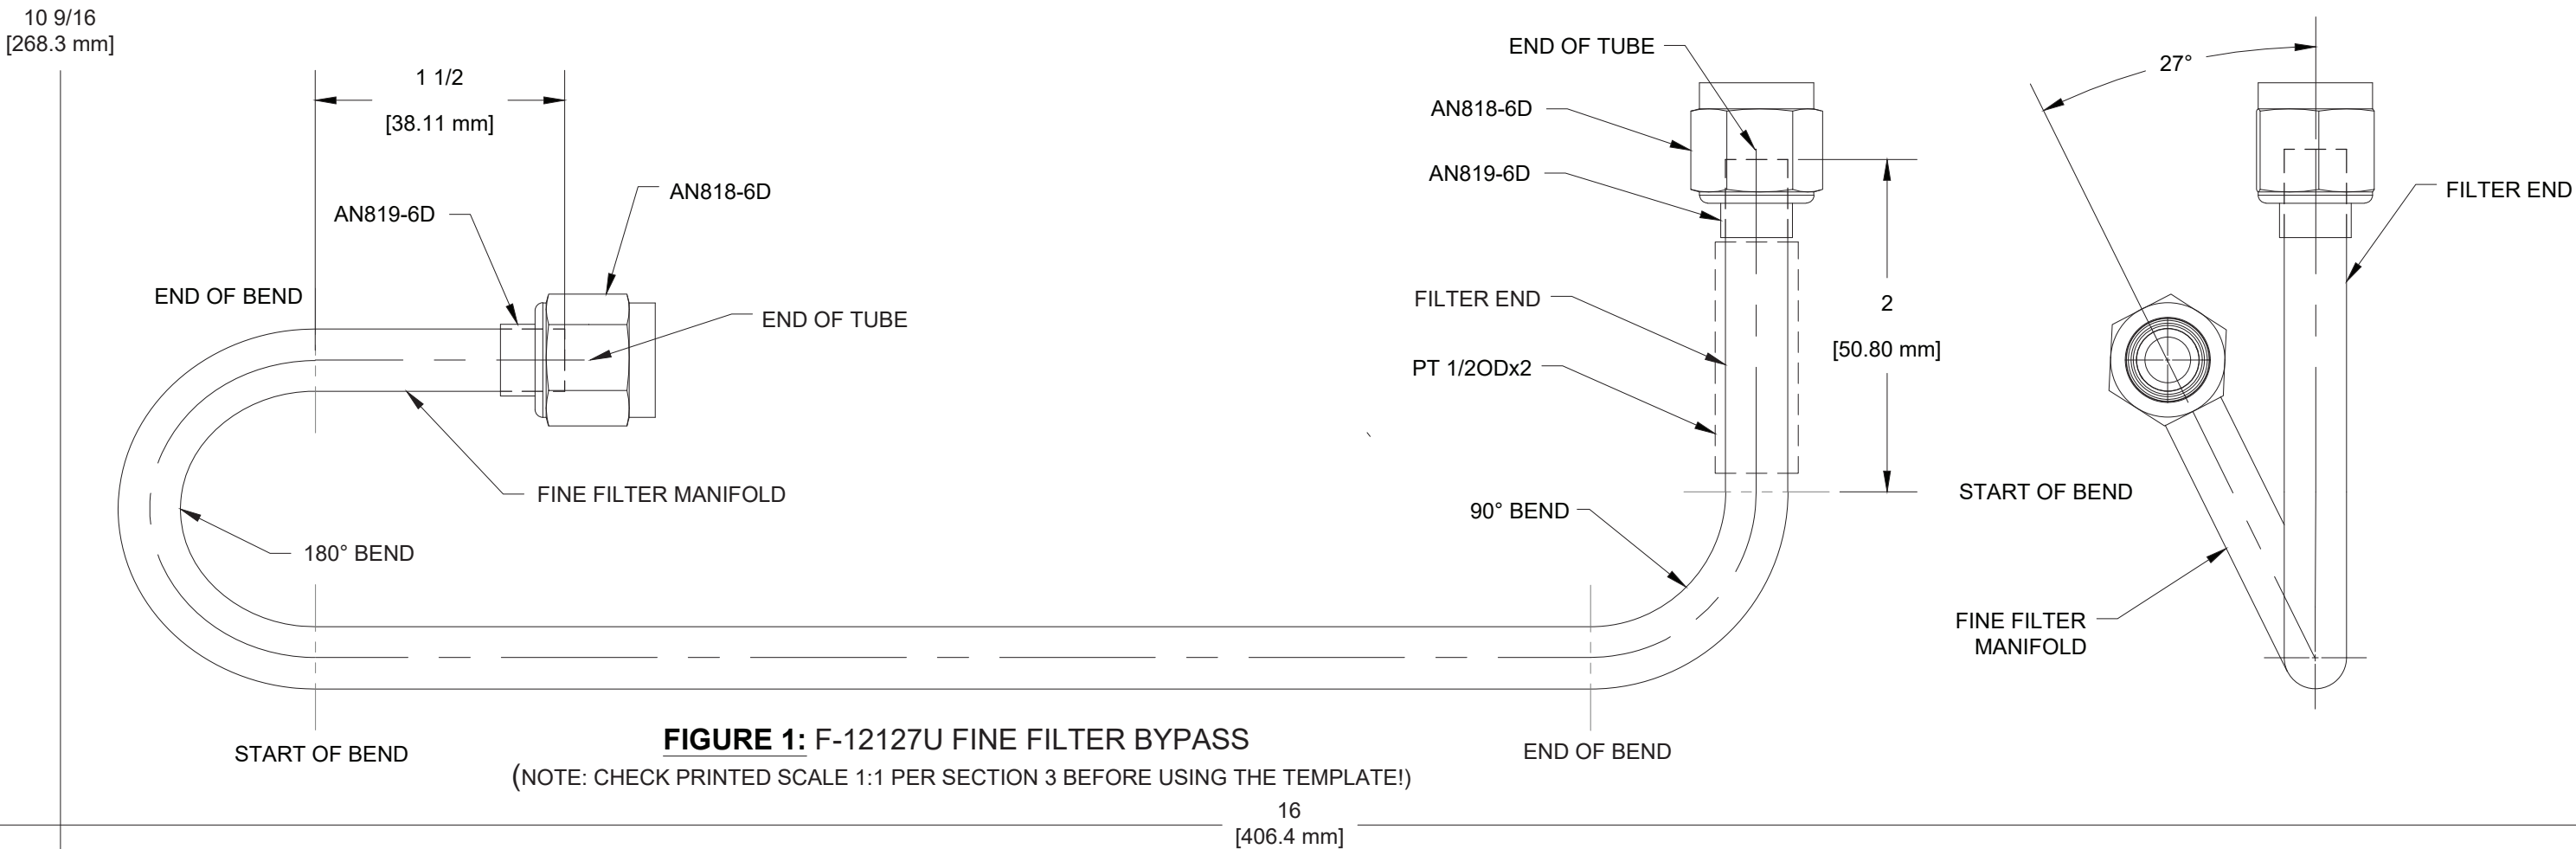

FIGURE 1: F-12127U FINE FILTER BYPASS
Step 1: Straighten 13 in. [330.2 mm] of ATO-035X3/8 tubing. Make the F-12127P by making bends as shown in Figure 1. The clocking and position of the ends are critical, but minor deviations along the length are acceptable. Trim to fit.